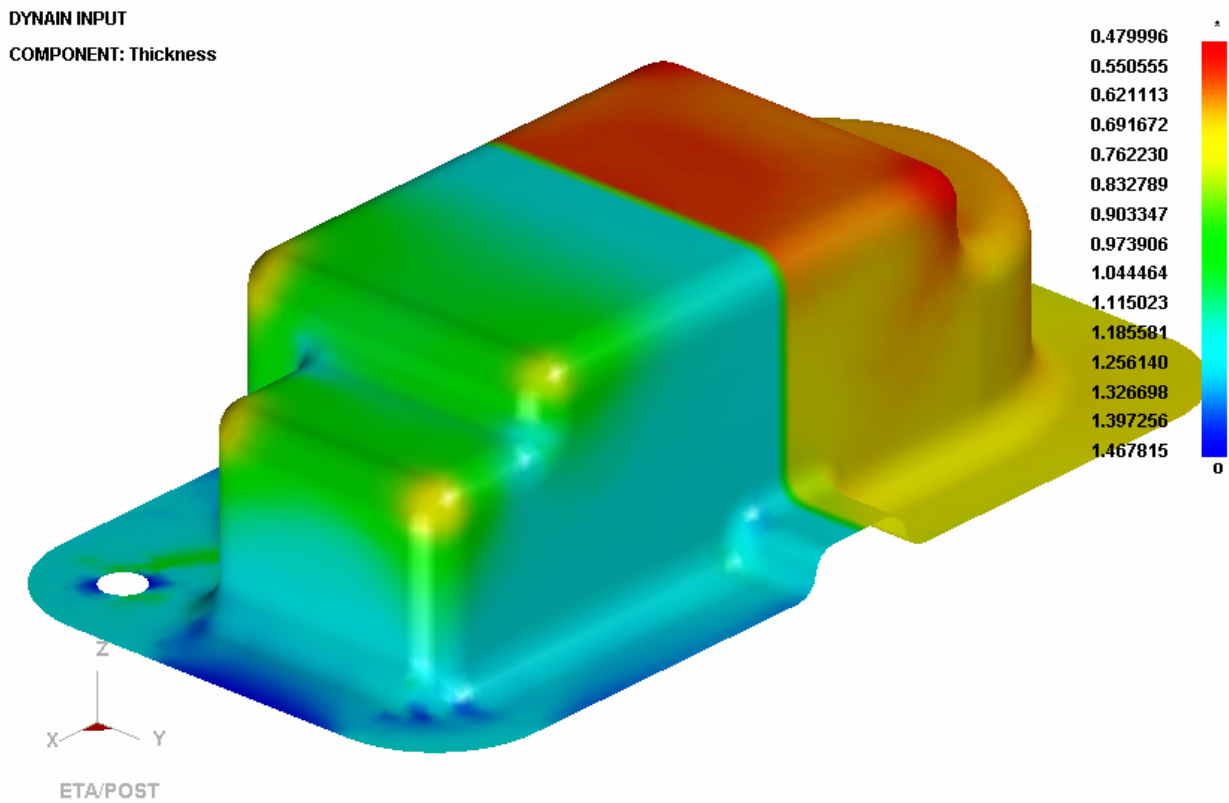

Figure 4.49: Illustration of Thickness result
3) Click “PLOT” to plot the thickness contour diagram, which is shown in the following figure 4.49.